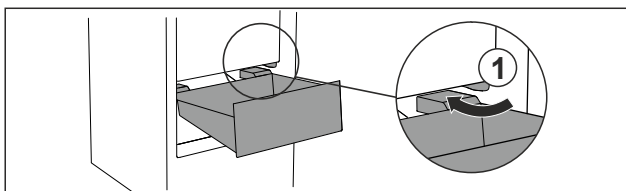

Fig. 94
- ▶ Guide drawer in at an angle around the stoppers Fig. 94 (1).